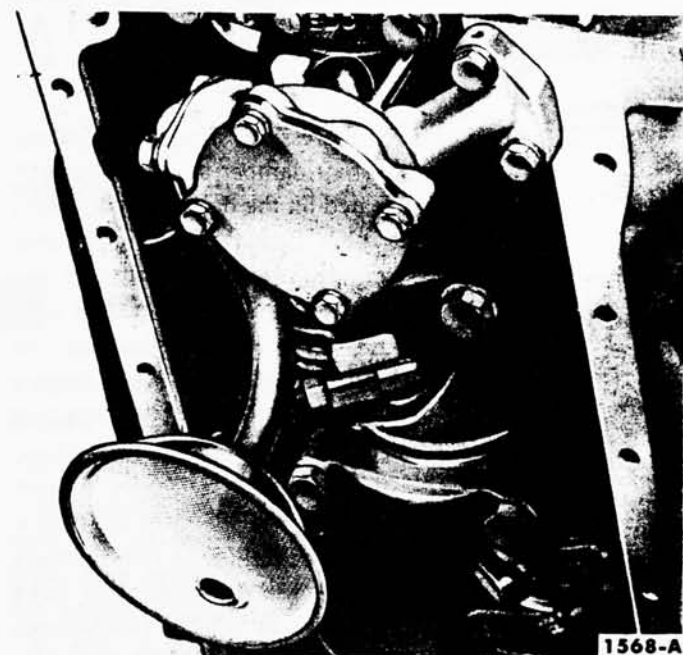

FIG. 46—Oil Pump and Inlet Tube Installed
1. Insert the oil pump drive shaft into the oil pump. Position a new gasket on the pump housing and install the pump and shaft as an assembly (Fig. 46). **Do not attempt to force the pump into position if it will not seat readily. The drive shaft hex may be misaligned with the distributor shaft. To align, rotate the intermediate shaft into a new position.** Tighten the oil pump retaining screws to 23-28 foot-pounds torque.